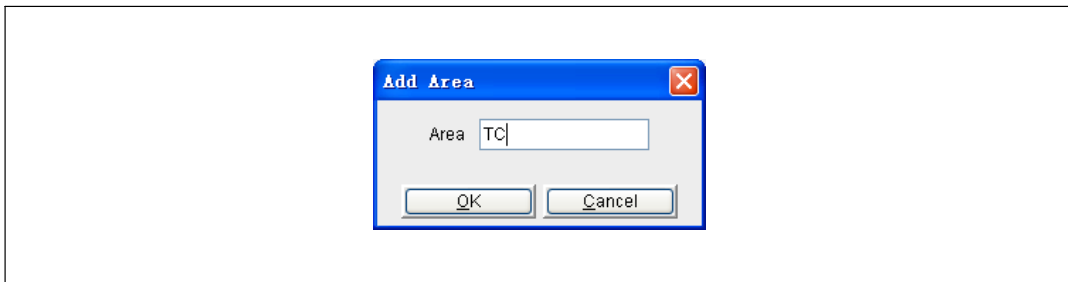

Figure 94. Add Area Window
- 3 Enter the geographic address of the SNMP card and click **OK** (see Figure 94).